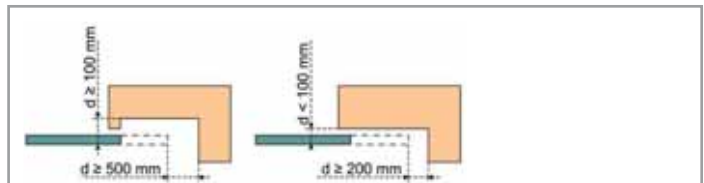

Figure 1 - Safety distances
<p>ZONE 3 Risk of crushing with an adjoining fixed section upon opening</p>	<p>Protection by safety edge(s). Obstacle detection must be confirmed as compliant with Appendix A of standard EN 12 453.</p> <p>Protection by means of safety distances (see figure 1).</p>
2.2. Composition of the kit - Fig. 1